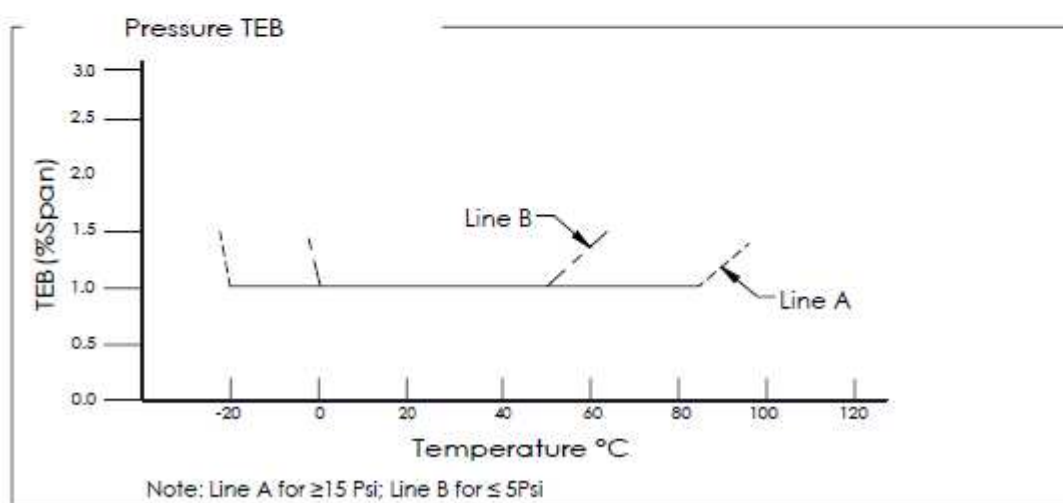

Fig 3
3. Total Error Band: includes calibration errors and temperature effects over the compensated range. See Figure 3.